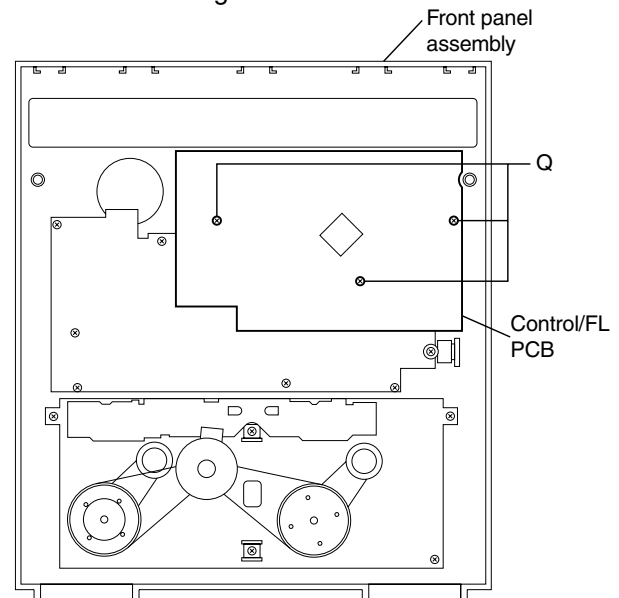

Fig.24
## ■ Removing the control/FL PCB (See Fig.24)
■ **Removing the switch PCB and ACTIVE BASS EX. switch PCB (See Fig.24 to 27)**